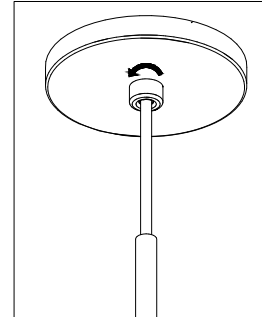

Figure 1: Canopy Removal
1. Loosen and lower canopy cover by turning the lock screw located at the base of the canopy counter-clockwise. [Figure 1]